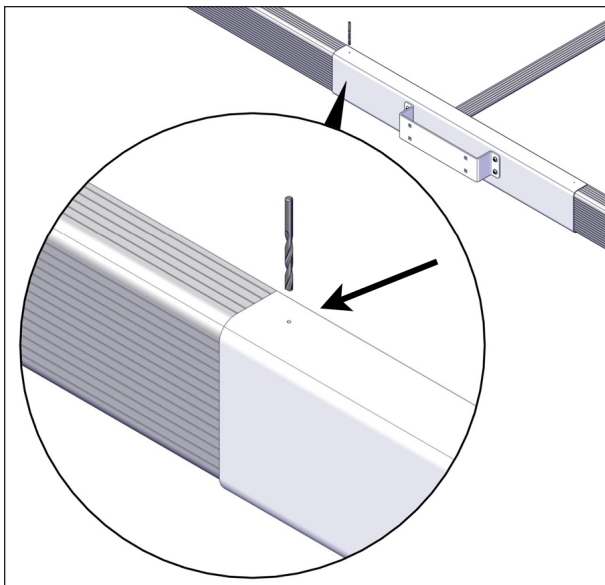

FIGURE 56: HOLE DRILLING THROUGH THE C-CHANNEL
- Use the provided 5/32" drill bit to drill the holes on the top and bottom of the support bracket, see Figure 56. Use the pre-drilled holes in the support bracket as guidance.